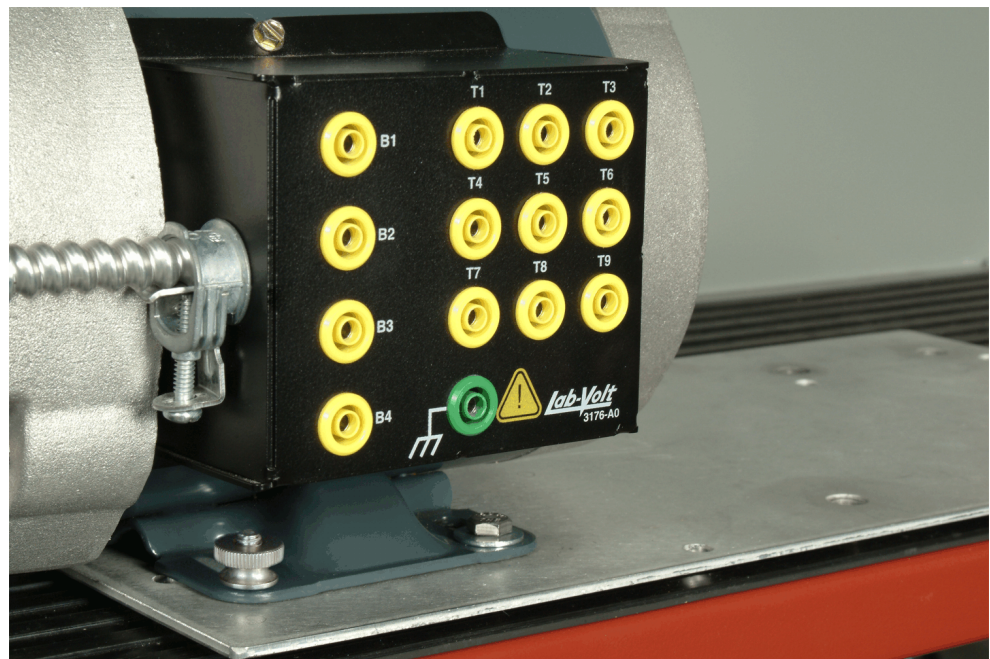

Figure E-1. Install the Brake Motor on the mounting plate.
- Fix the Brake Motor to the mounting plate of the Mobile Workstation using hexagonal head screws with knurled nuts or with washers when placing the head of the screw on top. Figure E-1 shows the two fixing methods.